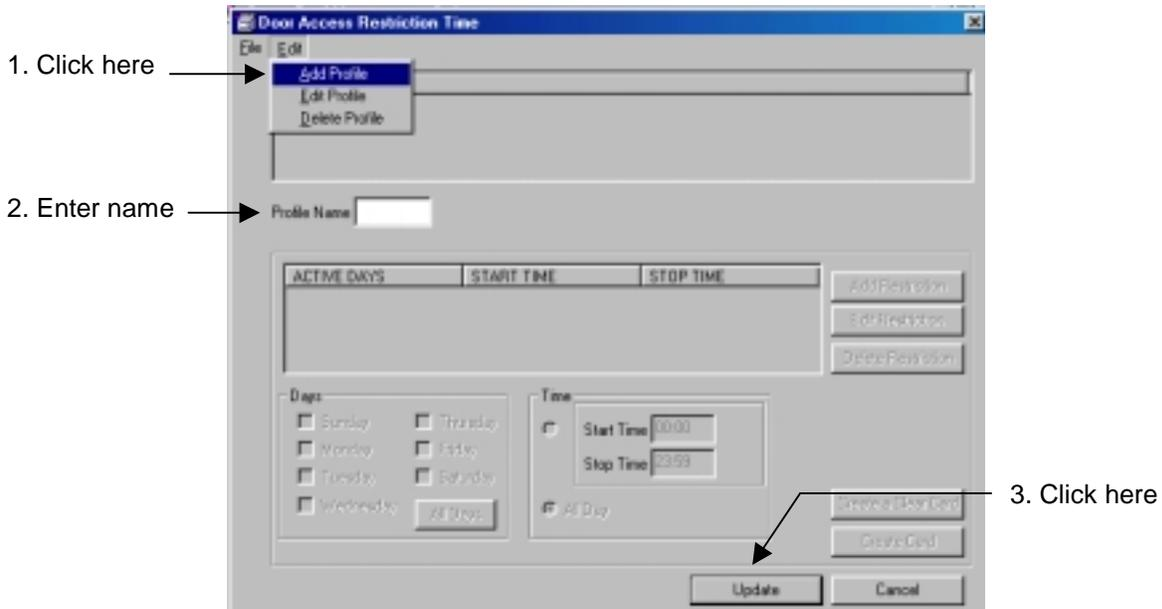

Figure 11.48 Adding a Door Access Restriction Time Profile
1. In the Door Access Restriction Time window select Add Profile from the Edit drop-down menu (Figure 11.48).
2. Enter an identification in the Profile Name field (Figure 11.48).
3. Click the Update button to save the new profile (Figure 11.48).